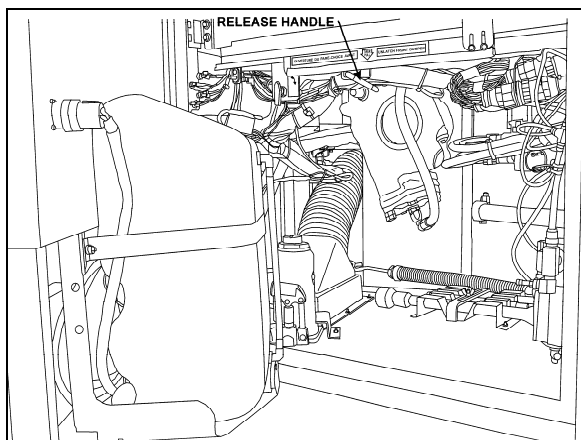

FIGURE 9: FRONT BUMPER RELEASE HANDLE
- At the top of windshield, clean surface between fiberglass and rubber extrusion using Sika 205 (Fig. 9).